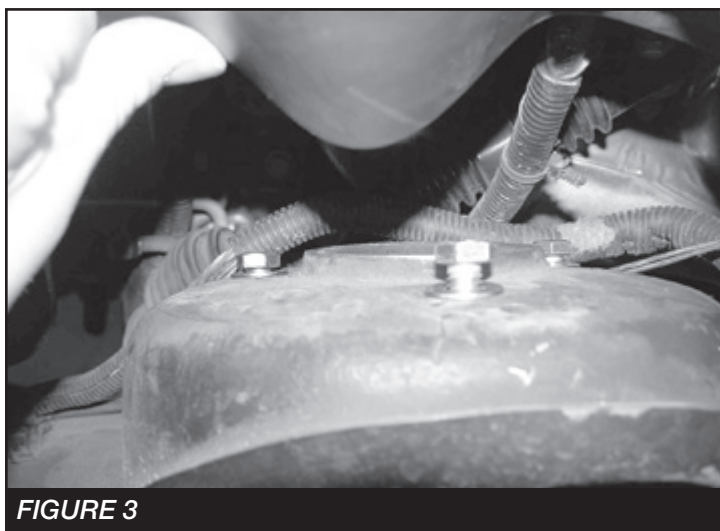

FIGURE 3
5. Line up the 4 holes on the upper mount and install the 4 bolts / washers provided in the hardware kit. **SEE FIGURE 3**